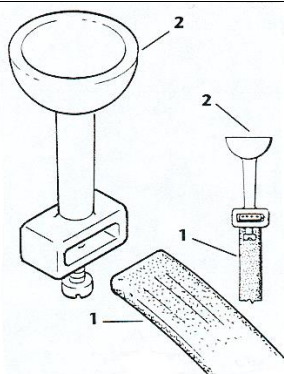
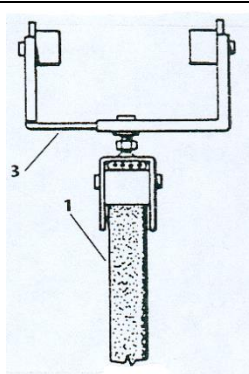

fig. 59
fig. 60
2. Insert the power cable 1 in the cable-carrying sleds 2, in the case of the channel - bar (fig. 59), or in the slides 3, in the case of the "girder" arm (fig. 60), so as to form a series of festoons of equal width. Tighten the cable with the related screws or seatings.
2. Insert the power cable **1** in the cable sliders **2**, in the case of the channel girder (fig. 59), or in the cable trolleys **3** in the case of the girder arm (fig. 60), so as to form a series of festoons of equal width. Clamp the cables with the relative screws or seatings.